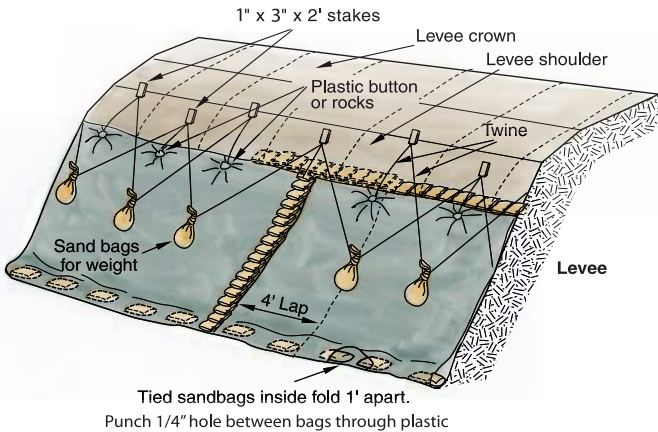

Figure 10: Wavewash Protection
- Place the stakes 4 feet apart and stagger vertically by 1foot as shown in Figure 10.
**Team 4**-Using a continuous piece of twine, hang tied bags from stakes in a zigzag fashion or "V" fashion as shown in Figure 10.
- To prevent slippage, make sure the sandbags forming the to seam cap are half on the plastic and half on the levee as shown in Figure 10.